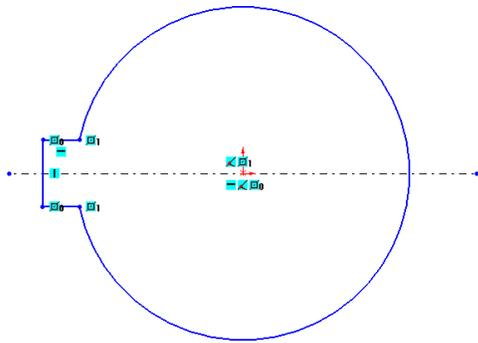

Figure 3-69 The sketch after removing the unwanted portion
- d. Draw and edit the sketch using the **Mirror Entities** and **Trim Entities** tools, refer to Figure 3-69.
12. Choose the **Power trim** button from the **PropertyManager**. Press and hold the left mouse button and drag the cursor over the portion to be removed. Choose the **OK** button from the **PropertyManager**. The sketch after removing the unwanted portion is shown in Figure 3-69.